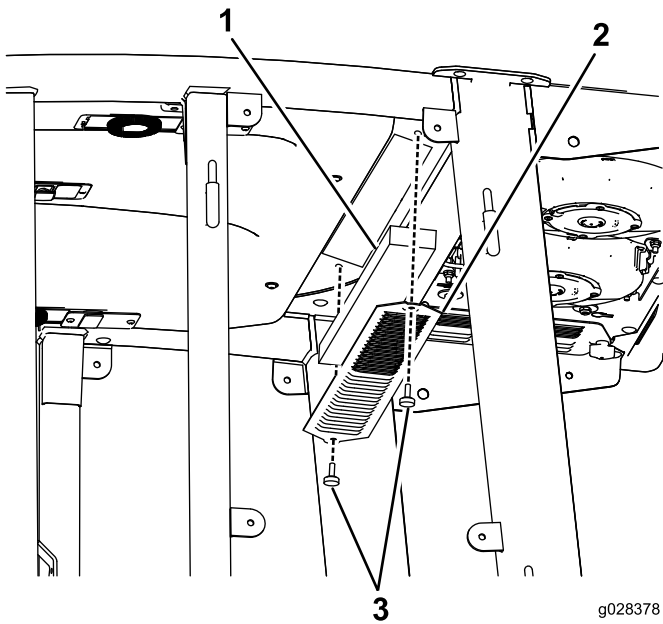

Figure 55
1. Remove the screws and grates from over both the in-cab and rear cab air filters (Figure 55).